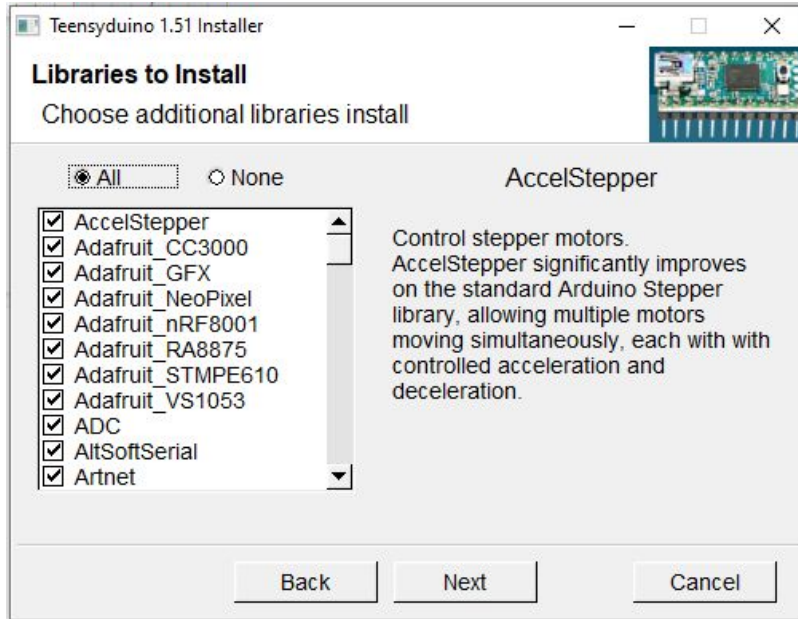

Fig. 4. Library selection screen of the Teensyduino installer.
3. Ensure that “All” is selected. Then, left click “Next.” Fig. 4 below shows what the windows should look like: